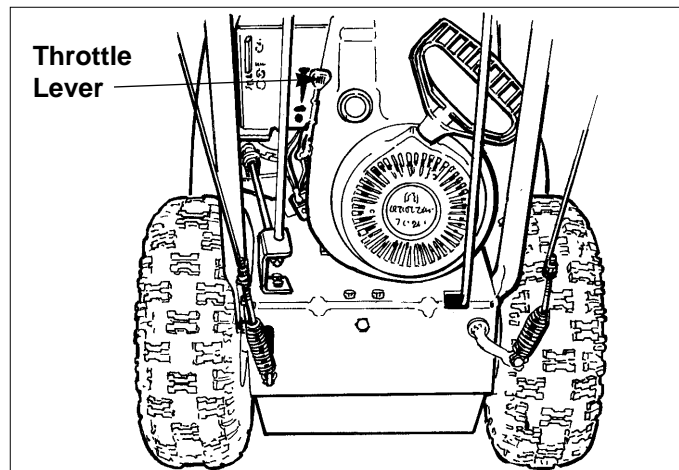

Figure 8. Engine Speed Selection
For overall best performance, run the snowthrower at full engine operating speed. Use the engine Throttle Lever (See Figure 8) to set the engine speed. Slide the Throttle Lever UP to increase engine speed, and DOWN to reduce speed.
2. To DISENGAGE the traction drive lock, insert the Traction Lock Pin through the outer hole in the axle. (See Figure 8).
2. Stop the engine by moving the Throttle Lever (See Figure 8) down, or by pulling out the Engine Key.